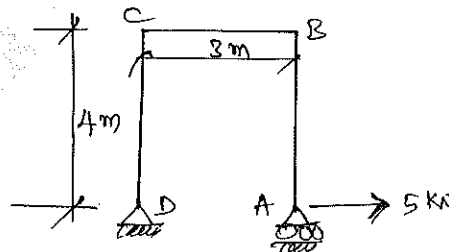

Fig.Q6(a)
- 6 a. Determine the horizontal displacement of the roller support end A of the frame shown in Fig.Q6(a), take $EI = 8000 \text{ kN-m}^2$ by unit load method.